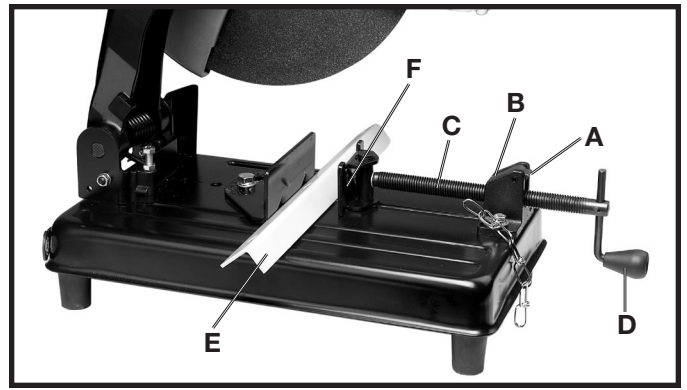

Fig. 8
1. Depress lever (A) Fig. 8, to lift half-nut (B) off screw (C).
2. Pull out screw handle (D) Fig. 8, far enough to allow workpiece (E) to be placed in vise opening against rear vise clamp, as shown. **NOTE:** It is not necessary to thread the screw (C) when the half-nut (B) is in the up position. The screw handle (D) can be pulled out or pushed in.